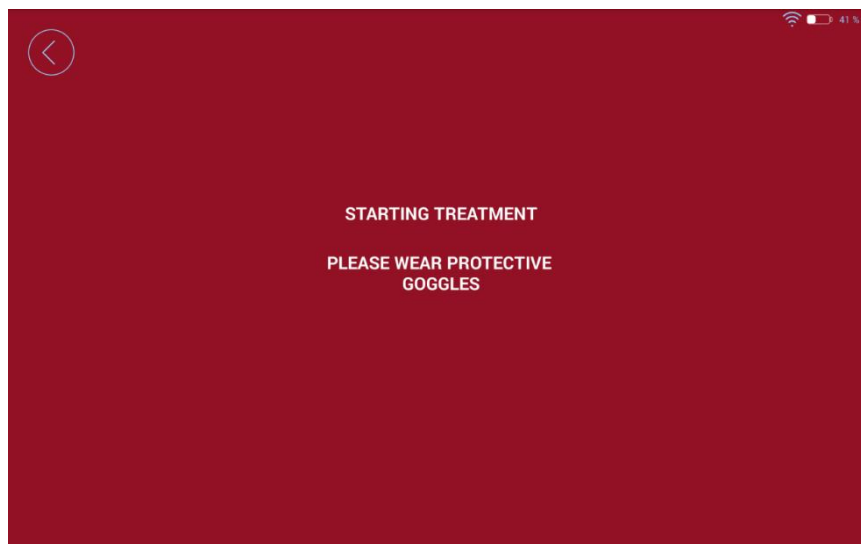

Figure 8. Ready to emit interface
8. Click on "START TREATMENT" and a red screen will appear alerting the user of the requirement for everyone in the treatment room to wear protective safety shields/ goggles (Figure 8).